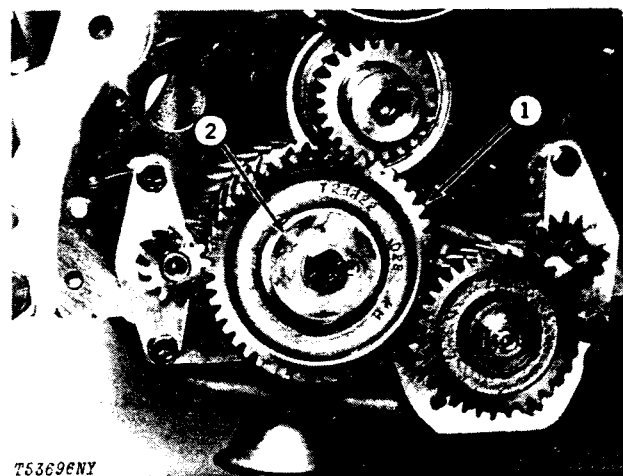

Fig. 41-Lower Idler Gear and Thrust Washer
Position lower idler gear (1, Fig. 41) and thrust washers (2) on lower idler gear shaft without moving any of the other gears.